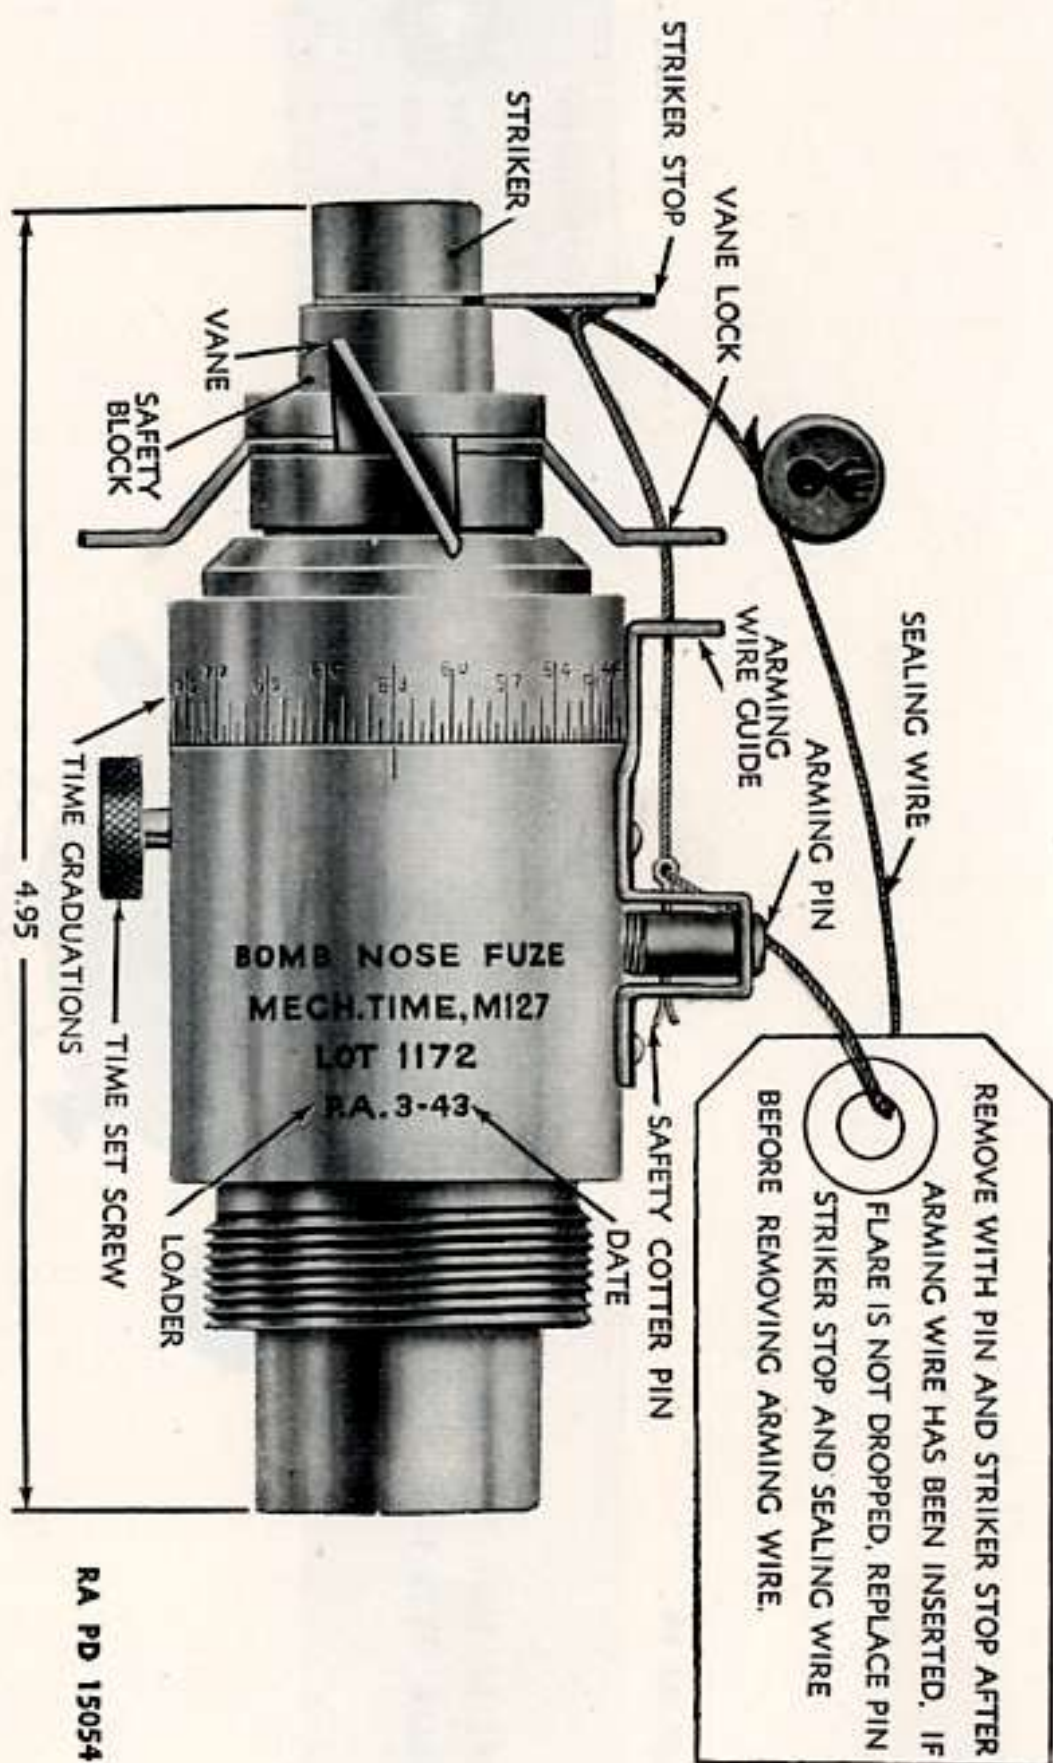

Figure 61. FUZE, bomb, mechanical time, M127 (nose).
44. FUZE, BOMB, MECHANICAL TIME, M127 (NOSE). This fuze (fig. 61) is similar to FUZE, flare, mechanical time, M111A2, described in paragraph 41, except that a tetryl booster is used instead of the black powder booster of the flare fuze. This fuze may be used with ADAPTER-BOOSTER, M117, in bombs adapted for the AN-M103 nose fuze.